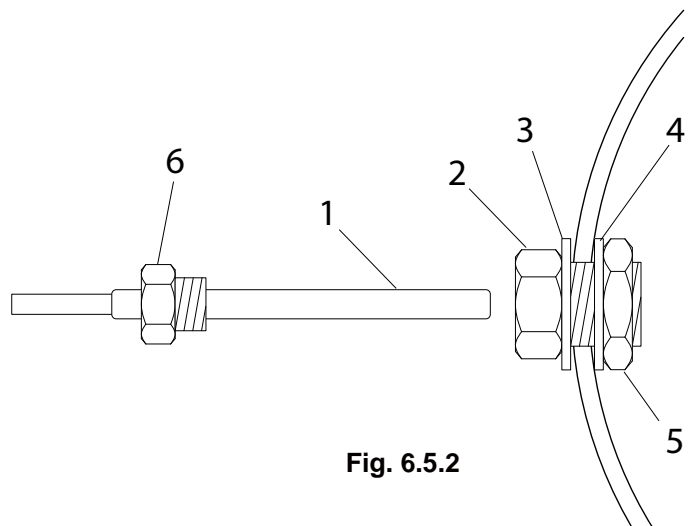

Fig. 6.5.2
- 2) insert the probe shaft (2) into the pipe with the washer (3) (Fig. 6.5.2);
- 3) from inside the pipe insert the washer (4) and screw the bolt (5) on the probe shaft (2);
- 4) insert the probe (1) in the probe fixing (6);
- 5) insert the probe (1) into the probe shaft and fix it by screwing the probe fixing (6) and blocking the probe shaft (2).